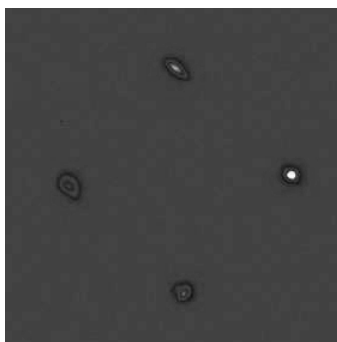

Figure 9.10.4 Image during optical alignment of Enhance Ultra
4. Repeat points 2-3 until the image consists of 4 separate spots. The right hand spot will be much more intense than the others (see Figure 9.10.4).